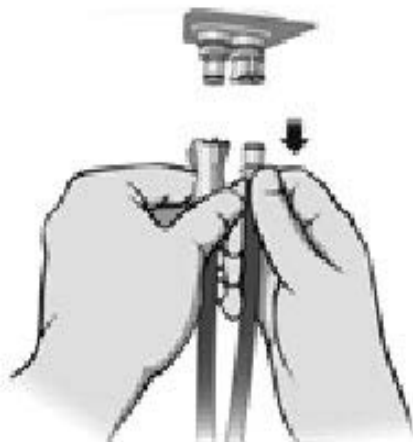
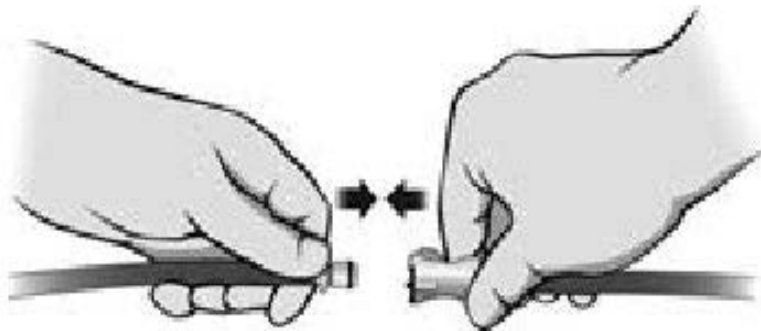

Figure 1
Figure 2
**POWER LOSS:** In case of loss of power, disconnect the air lines from the mattress BEFORE unplugging the Control Unit from the wall. This will seal the air in the mattress for days or weeks. See Note and Figure 1 and Figure 2 below.
**NOTE:** If the air lines are green, you can keep them connected to the mattress, but disconnect them from the Control Unit (Figure 1) and insert them into each other as indicated in Figure 2 below. This will seal the air in the mattress for days or weeks.